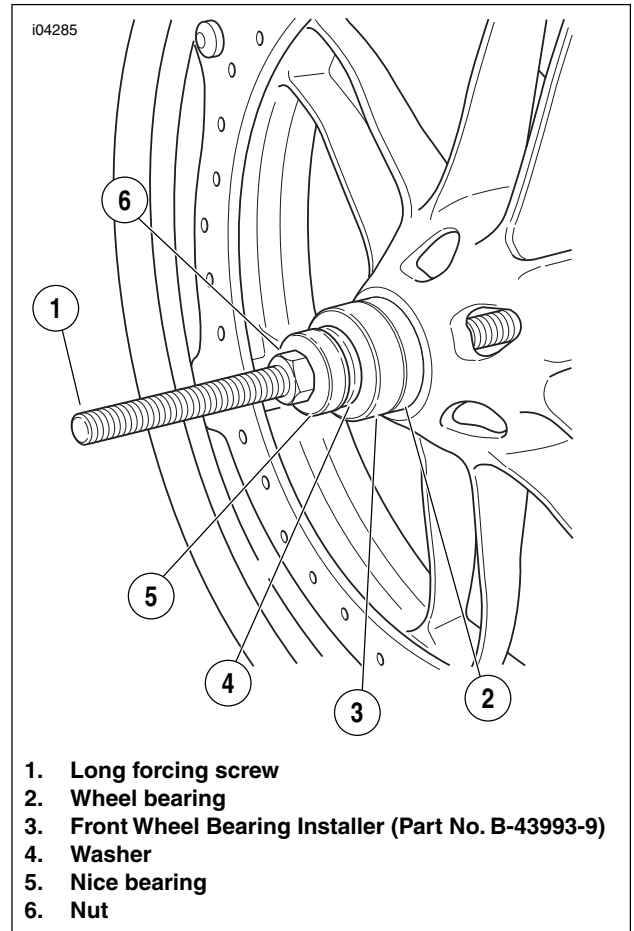

Figure 2-13. Installing Wheel Bearings
2. See Figure 2-13. Sparingly apply EXTREME PRESSURE LUBRICANT (Part No. J-23444-A) to the threads of the long forcing screw (1) to prolong service life and ensure smooth operation.
3. Insert a **new** wheel bearing (2) squarely into the hub, with the lettered side pointing out (away from the wheel).
4. Slide the FRONT BEARING INSTALLER (Part No. B-43993-9, from kit Part No. B-43993-50) (3) onto the forcing screw (1), with the smaller diameter toward the bearing bore.
5. Install a washer (4), Nice bearing (5) and nut (6) onto the forcing screw (1).
6. While holding the forcing screw (1), tighten the nut (6) until the bearing is seated firmly against the shoulder inside the bearing bore in the wheel hub.